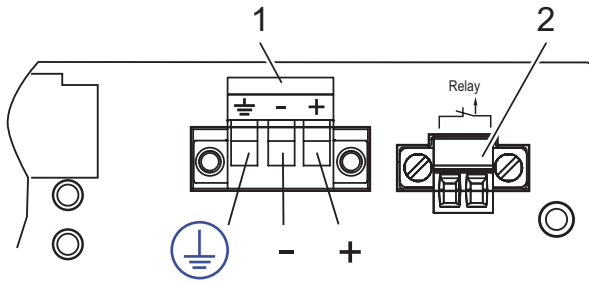
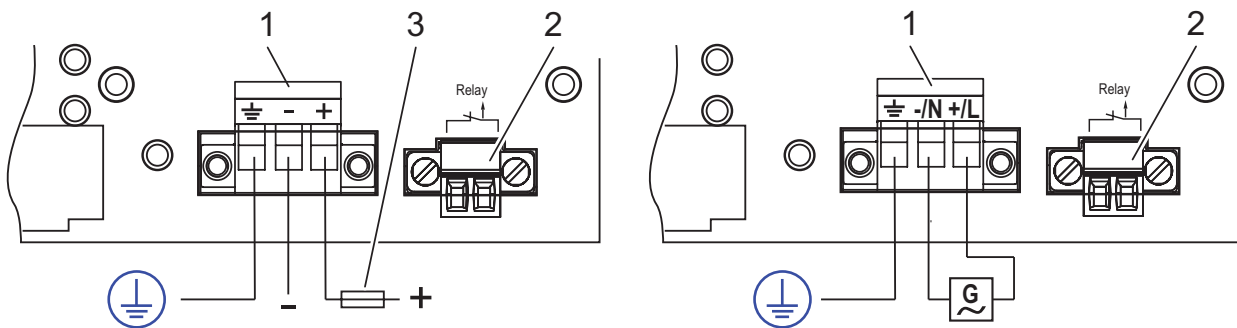

Figure 15: Back of MACH 1000 device with power unit “L”,
Figure 16: Back of MACH 1000 device with power unit “M”,
- with plugged voltage supply (see fig. 15), (see fig. 16)